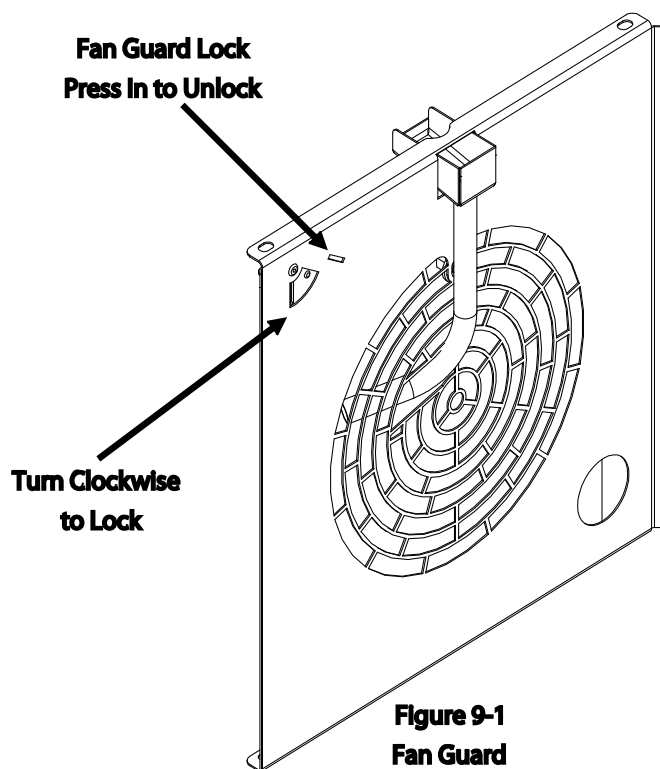

Figure 9-1
- 1) Remove the fan guard. See Figure 9-1.
- 3) Replace the fan guard. See Figure 9-1.
18. Clean thoroughly behind the fan guard. Clean the fan guard in a sink or dishwasher. Remove the fan guard. See Figure 9-1.
24. After cleaning, replace the oven racks and fan guard. Replace the fan guard. See Figure 9-1.